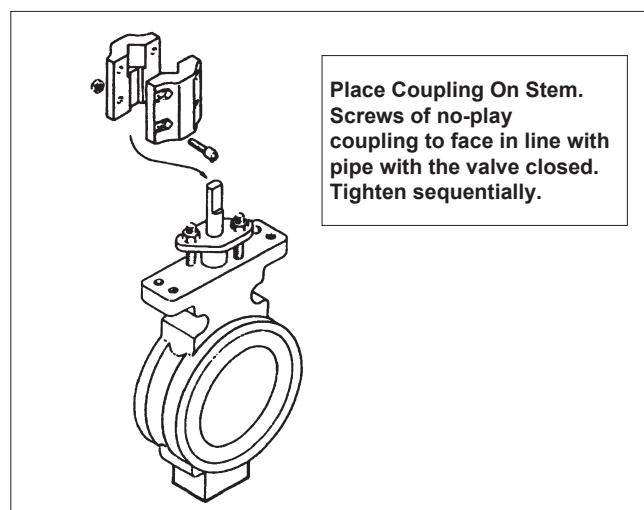

Figure 11.
2. Assemble bracket to actuator as shown in **(Figure 11)**. Tighten to torque listed in **(Table 3)**.